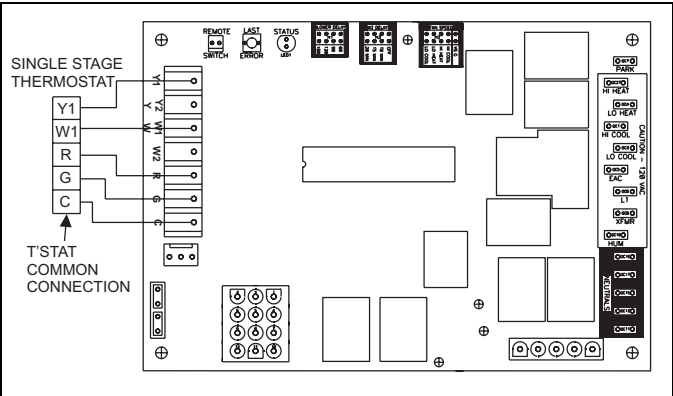

FIGURE 11: Field Wiring for Single Stage Thermostat
2. Remove the screws retaining the wiring box cover. Route the power wiring through the opening in the unit into the junction box with a conduit connector or other proper connection. In the junction box there will be three wires, a Black Wire, a White Wire and a Green Wire. Connect the power supply as shown on the unit-wiring label on the inside of the blower compartment door or the wiring schematic in this section. The black furnace lead must be connected to the L1 (hot) wire from the power supply. The white furnace lead must be connected to neutral. Connect the green furnace lead (equipment ground) to the power supply ground. An alternate wiring method is to use a field provided 2" (5.1 cm) x 4" (10.2 cm) box and cover on the outside of the furnace. Route the furnace leads into the box using a protective bushing where the wires pass through the furnace panel. After making the wiring connections replace the wiring box cover and screws. Refer to Figure 11.
3. The furnace's control system requires correct polarity of the power supply and a proper ground connection. Refer to Figure 11 or "FURNACE CONTROL DIAGNOSIS" for symptoms of reversed power supply polarity.